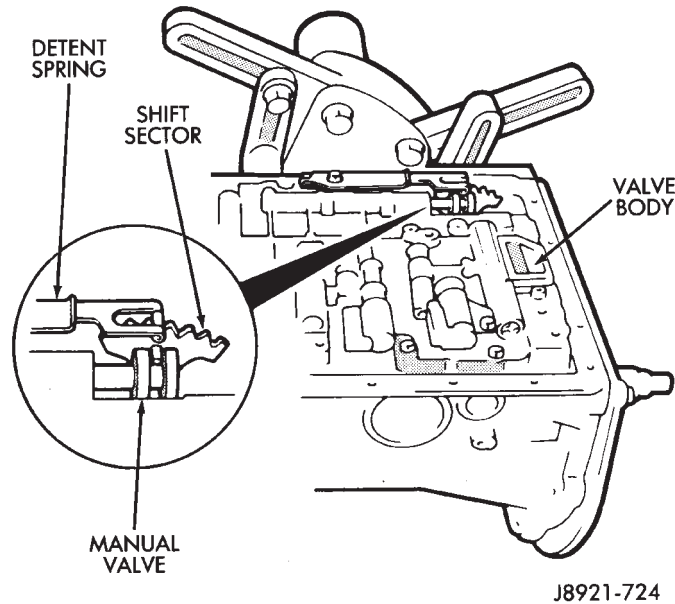

Fig. 175 Aligning Manual Valve, Shift Sector And Detent Spring
(81) Position valve body on case (Fig. 175).
(82) Install detent spring (Fig. 175).
- (A) SECOND BRAKE ACCUMULATOR PISTON
- (B) DIRECT CLUTCH ACCUMULATOR PISTON
- (C) OVERDRIVE BRAKE ACCUMULATOR PISTON
- (D) OVERDRIVE CLUTCH ACCUMULATOR PISTON
(83) Align manual valve, detent spring and shift sector (Fig. 175).